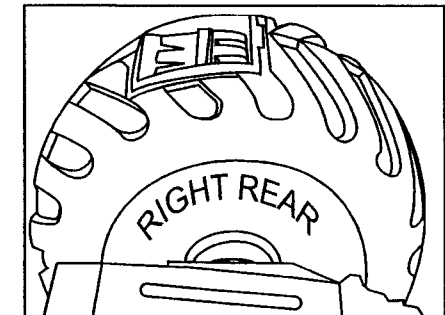

Fig 19
- 1) Check to see that the rotation of the wheel in the correct direction. Look PRINTING at the inside of the tire to help you determine which way is correct (**Fig 19**).